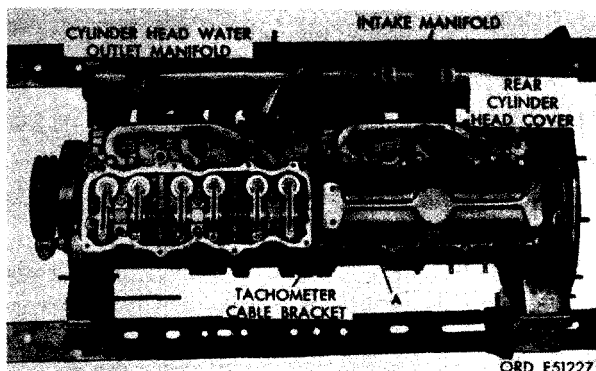

FIGURE 487. INSTALLING REAR CYLINDER HEAD COVER.
c. Install Rear Cylinder Head Cover. Figure 487. (A) Position rear cylinder head cover over gasket. (B) Secure rear cylinder head cover and tachometer cable bracket to cylinder head using seven 5/16- inch lock washers and 5/16 x 7/8 cap screws. (C) Install one 5/16- inch plain washer and 5/16-inch self- locking nut.